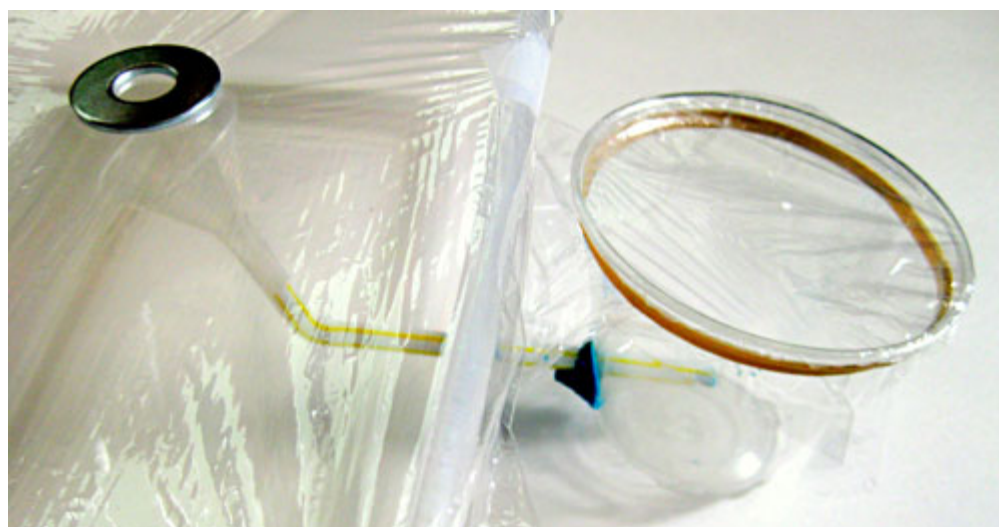

Figure 5. Secure a piece of cling wrap on to the top of each collection cup using a rubber band, as shown here.
7. After you are done adjusting your setup, cover each collection cup with plastic cling wrap and secure the plastic tightly with a rubber band, as shown in Figure 5. This prevents your desalinated water from evaporating.